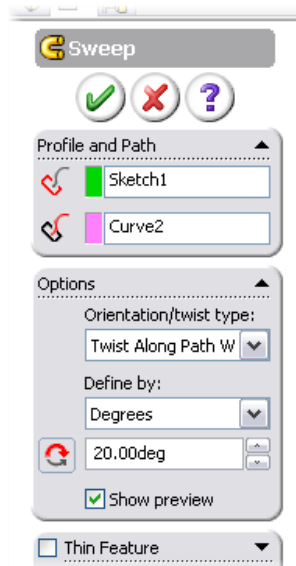

Figure 5: Sweep Options.
- Sketch 1 should be the profile. Curve 2 should be the path. You must open up the “Options” tab and from the drop down menu labelled “Orientation/twist Type” select “*Twist Along Path with Normal Constant.*” Select 20 degrees of twist. This is shown in Figure 5